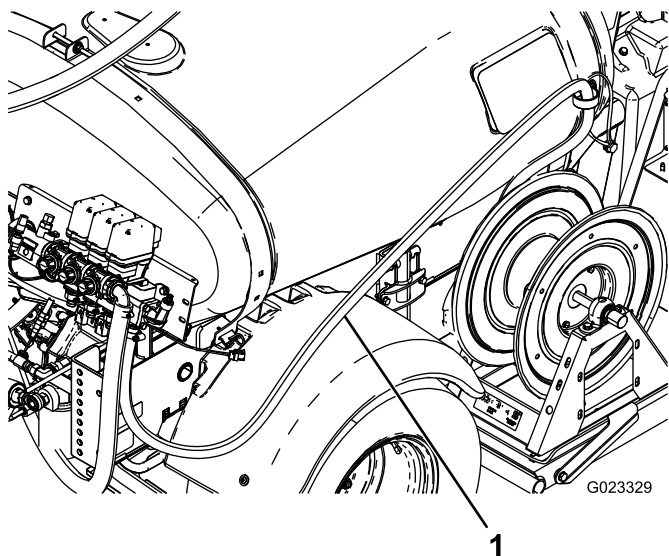

Figure 12
6. Route the hose-reel supply hose as shown in Figure 12 and attach it to the hose reel with a hose clamp.